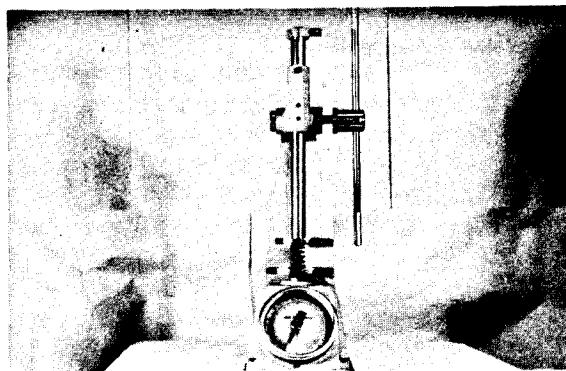

Figure 78
4. Over a period of time, valve springs can lose some of their tension. The spring must be replaced if the tension is less than the service limit. (Fig. 78)